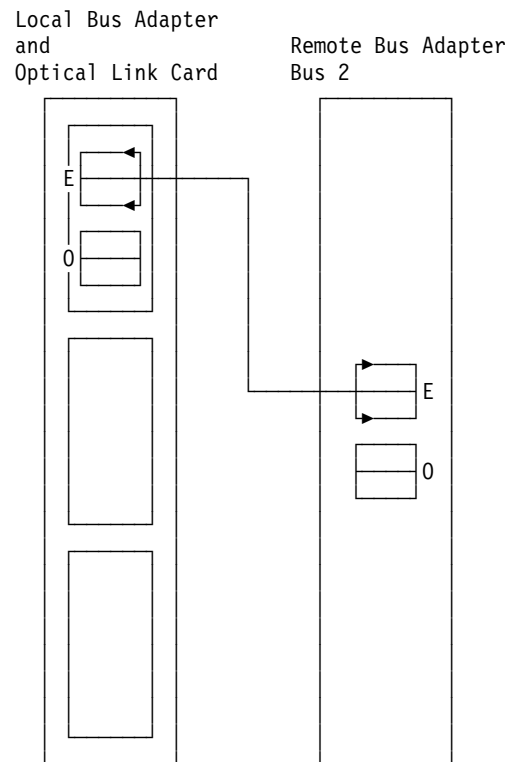
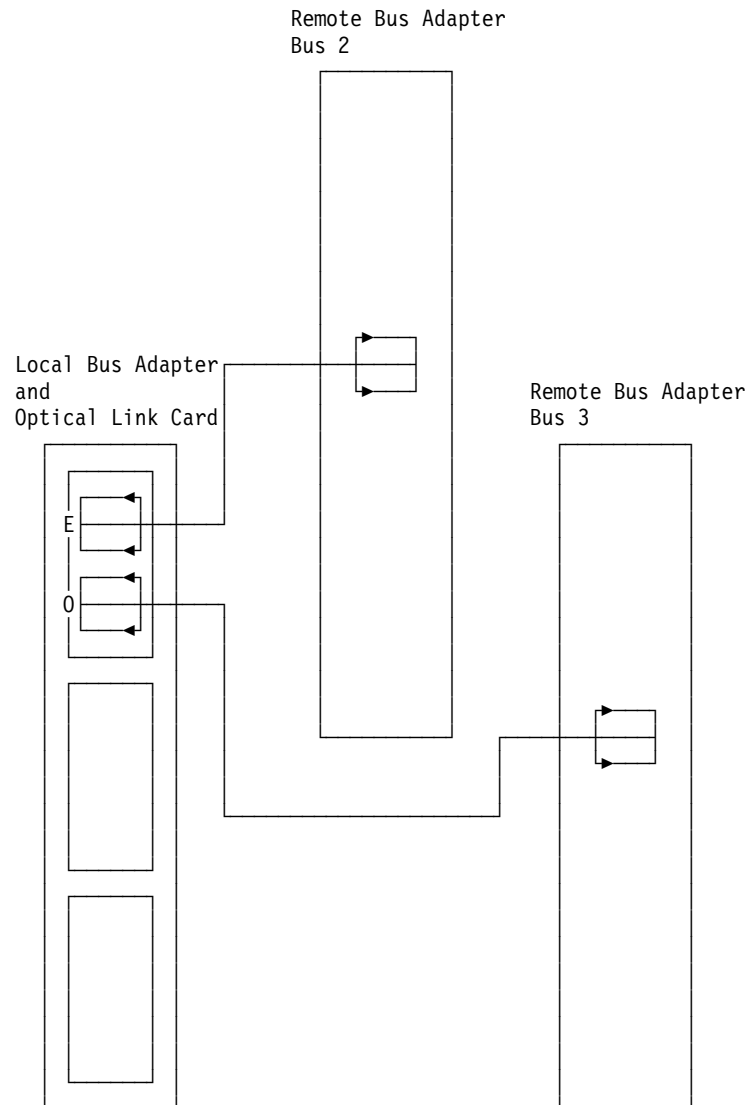

Figure 13. Example Single Bus
Figure 17. Example Single Bus Connection, No Redundancy
- b. Use the system configuration list, and Figure 13 through Figure 17 on page 478 to identify the correct configuration for your system. Verify that the optical bus cable connections are correct. Use the *AS/400e server 170, 250, 6xx, 7xx, and Sxx System Installation and Upgrade* if you need to verify the system configuration rules.